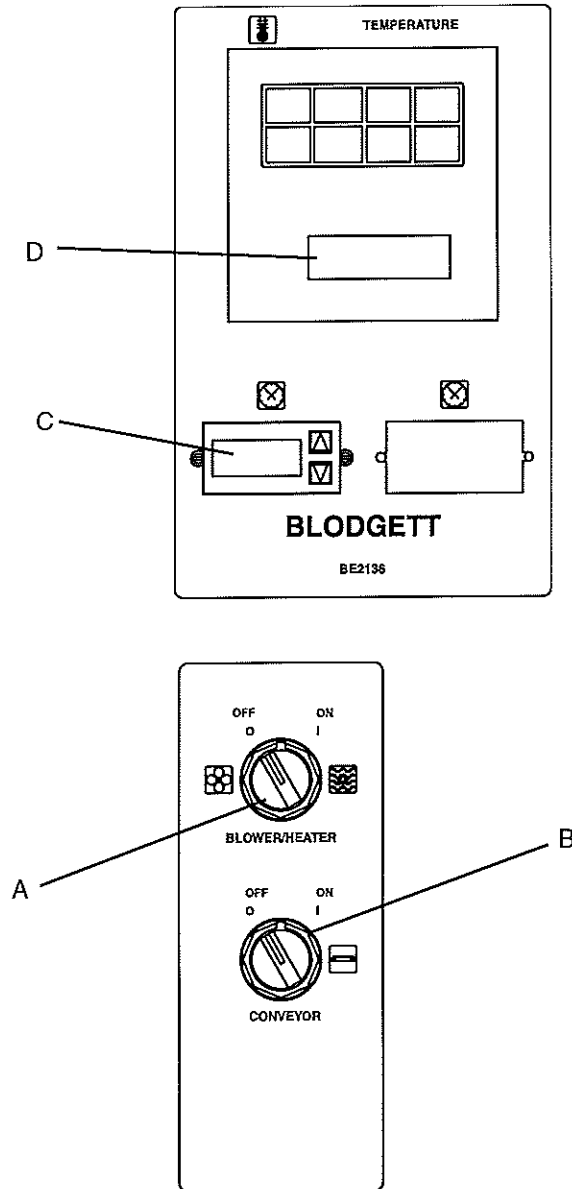

Figure 3-6. Control Panel
1. Turn the BLOWER/HEAT switch (Figure 3-6) to the "ON" or "I" position. This starts the main blower fan and the cooling fan. The blower circulates air through the air fingers and must stay on during the cooking or baking process.
2. Check to see if the cooling fan (see Figure 1-8) is operating when the BLOWER/HEAT switch (see Figure 3-6) is turned "ON" or "I". The cooling fans cool the control components and burner blower motor. The cooling fan, located at the rear of the electrical control cabinet blows air into and through the cabinet. Air is exhausted through the front of the cabinet and also out the front of the oven. Refer to Daily Maintenance Section for fan intake checking procedure.
3. Turn the CONVEYOR switch (Figure 3-6) to the "ON" or "I" position. This starts the conveyor belt moving through the oven. Set the conveyor speed for the desired baking time. Refer to the following Procedures E, F and G.
5. Turn the HEAT switch (Figure 3-6) to the "ON" or "I" position. This completes a circuit to supply electric power to the electric heating system.